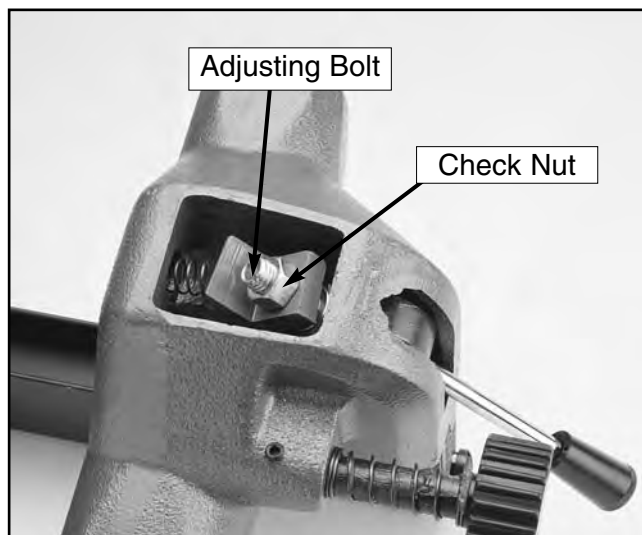

Figure 32. Adjusting clamp mechanism.
1. First, make sure the front clamp is engaging the front rail with the lock handle at one-half of its throw. If the front clamp requires adjustment, loosen the check nut shown in **Figure 32**. Turn the adjusting bolt clockwise if the front clamp is too far from the rail, or counter-clockwise if it is too close.